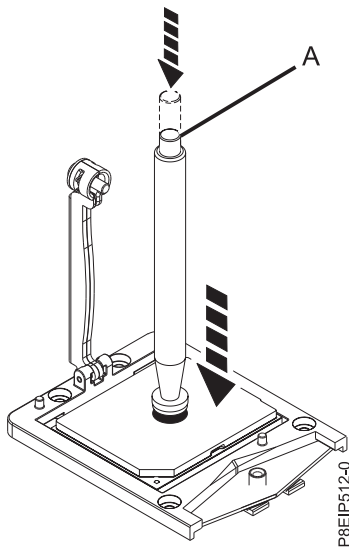

Figure 55. Lowering the removal tool onto the system processor module
3. Lower the vacuum pen tool onto the system processor module to install. Fully press the top of the pen (**A**) and hold the pen in the center of the system processor module as shown in Figure 55. Release the top of the pen to fasten the pen onto the system processor module.